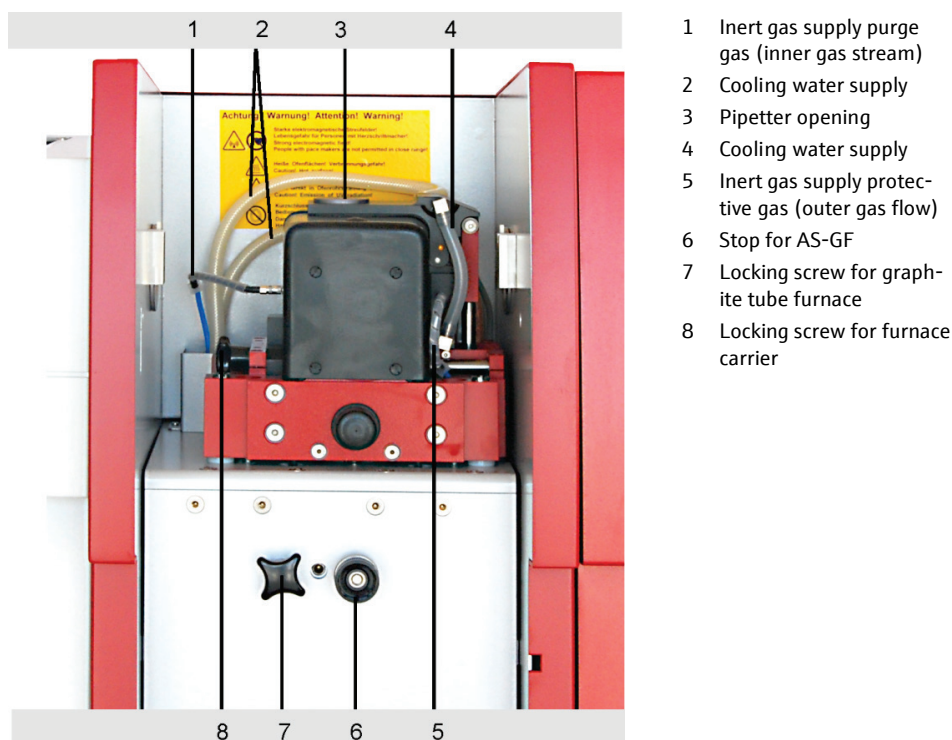

Fig. 47 Locking screws for the graphite tube furnace
1. Loosen the locking screw (cross-head screw, 7 in Fig. 47) for the graphite tube furnace.